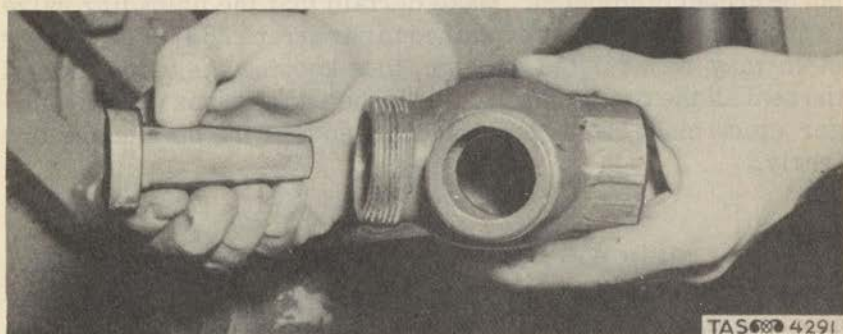

Figure 286. Removal of Injector Nozzle.
(4) Remove and replace the injector nozzle. (Fig. 286)